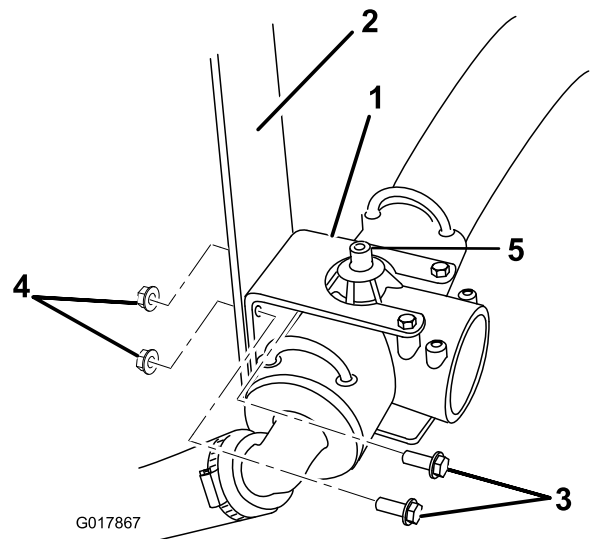

Figure 8
2. **Multi-Pro 1200 sprayer only:** Disconnect the small red pressure gauge tube from the green tube fitting on top of the supply tee (Figure 8).
3. Remove the two bolts and two nuts securing the supply tee and supply tee mounting bracket to the vehicle (Figure 8). Retain the fasteners for later use.